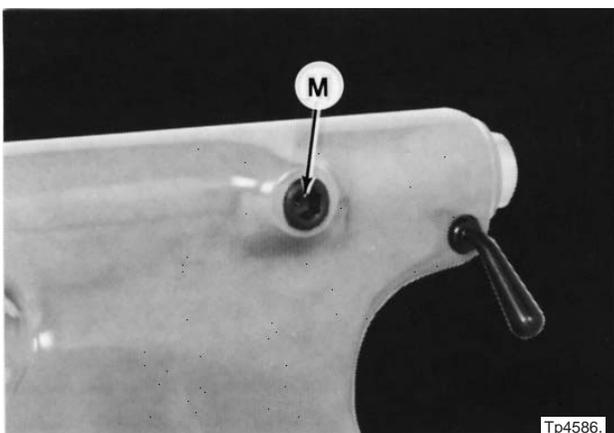

Figure 6.41 - Lockscrew for Tailstock Spindle Key
- h) Remove screw "M", Figure 6.41 .
- m) Replace screw “M”, Figure 6.41 .